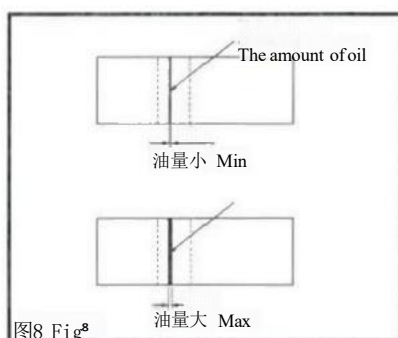
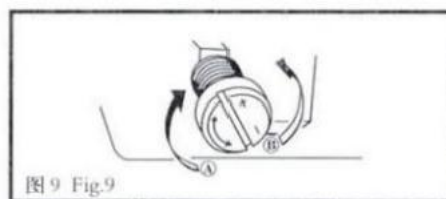

图8 Fig.8
图9 Fig.9
3. 旋梭油量的调节 (图7、图8、图9) 3.ADJUSTING THE AMOUNT OF OIL SUPPLIED TO THE HOOK (Fig.7, Fig.8, Fig.9)
*适量的油量标样: (图8)
· 调节旋梭油量: (图9)
***The proper amount of oil manual (Fig 8)**
***Adjusting the amount of oil supplied to the hook (Fig9)**